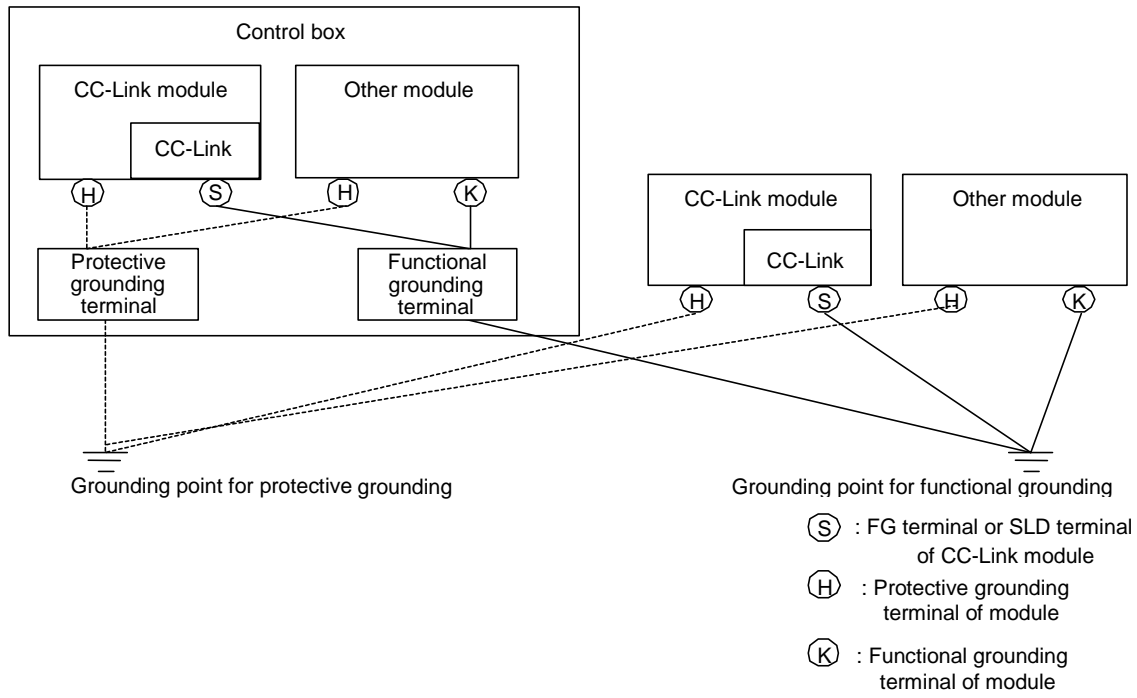
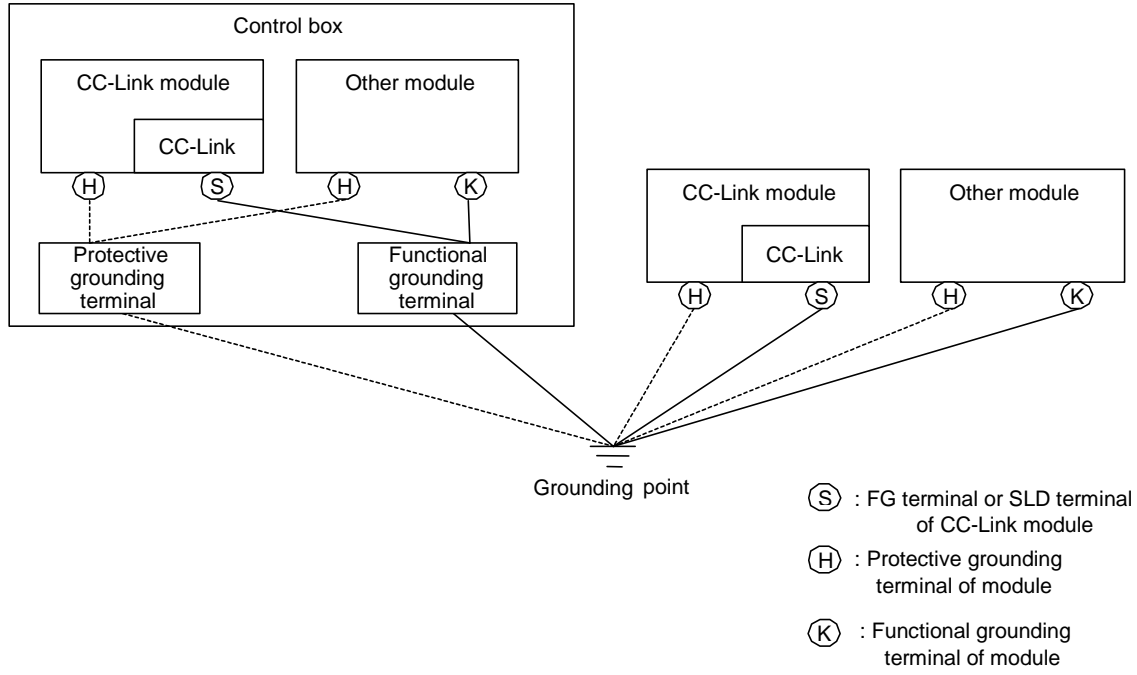

Fig. 4.6 Independent grounding example
Fig. 4.7 Common grounding example
- / If not use ground independently, use common ground according to the Fig. 4.6.
For protective grounding or functional grounding, use independent grounding (Fig. 4.6) or common grounding where cables are wired individually up to the grounding point (Fig. 4.7).